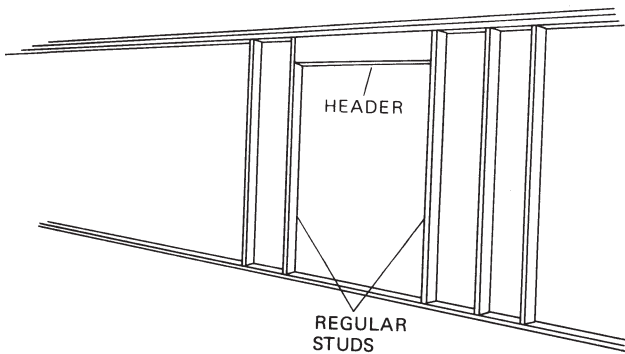

Fig. 9-35 Placing the header where it belongs. (Andersen.)
4. Position the header at the desired height between the regular studs. Nail through the regular studs into the header to hold the header in place until the next step is completed (Fig. 9-35).